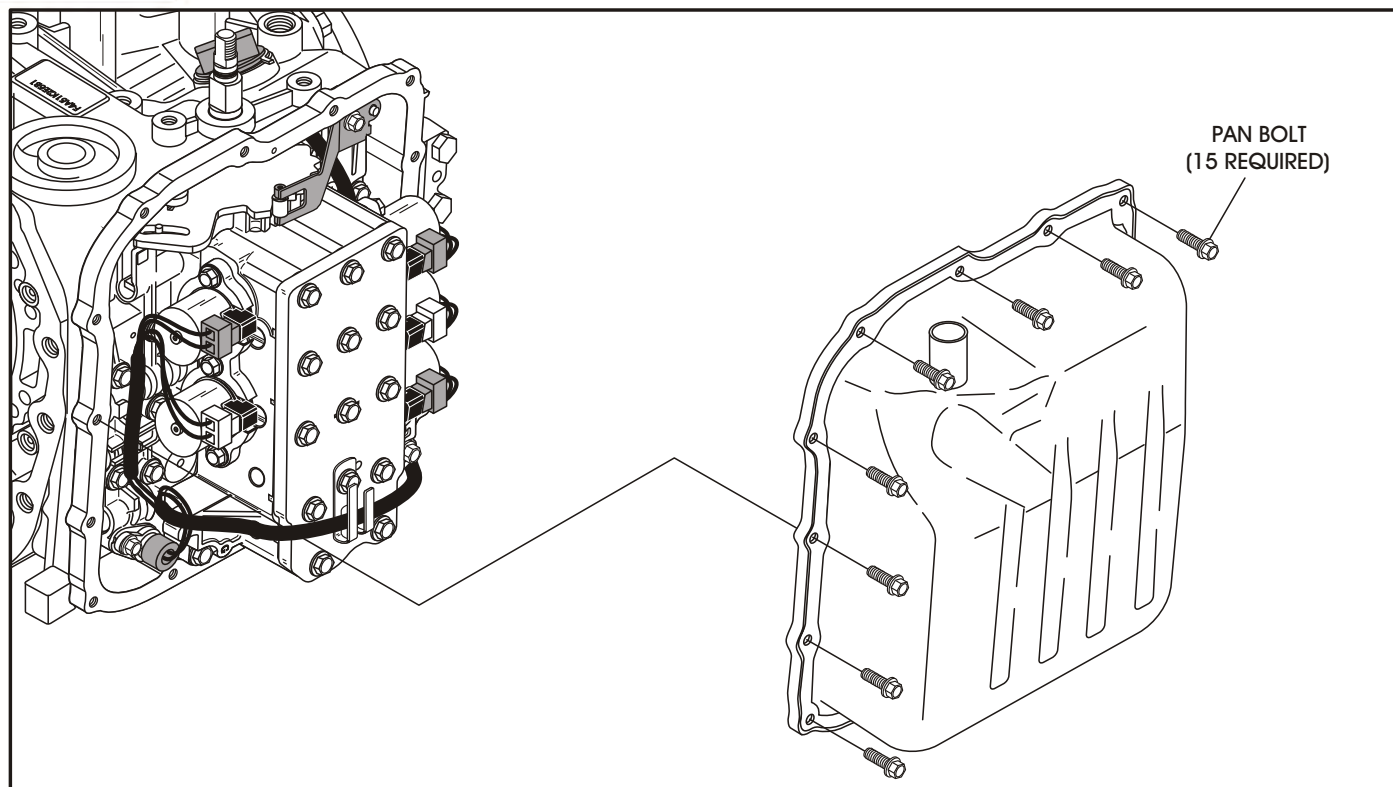

Figure 26
1. Remove the 15 pan bolts and remove the oil pan, as shown in Figure 26.